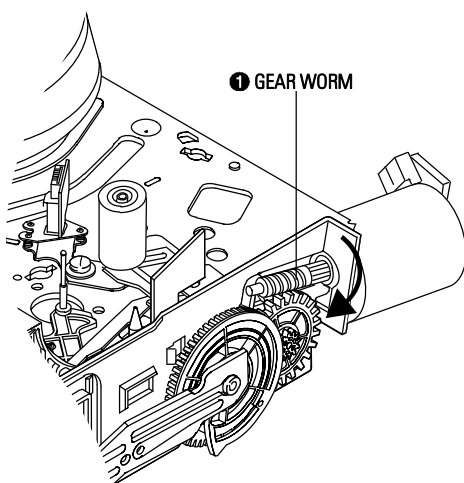

Fig. 2
- 1) Turn the Gear Worm ❶ clockwise in the direction of arrow with screw driver. (See Fig. 2)
- 3) Rotate Gear Worm ❶ clockwise using screw driver again up to the state of eject mode and then pick out the tape. (Refer to Fig. 2)